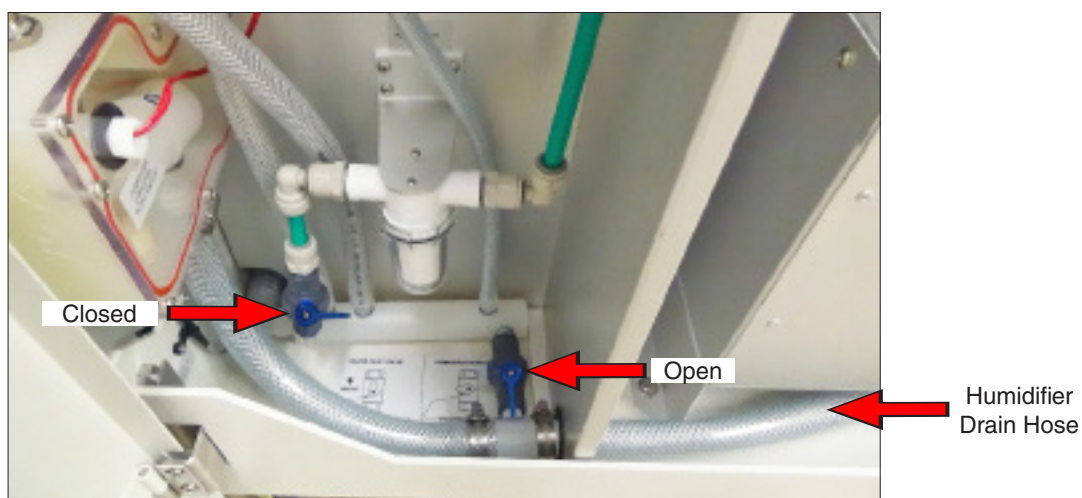

Figure 15.7d: Inlet valve closed, drain valve open.
5. **CLOSE** the water inlet valve (Figure 15.7d).
6. **OPEN** the humidifier drain valve (Figure 15.7d).